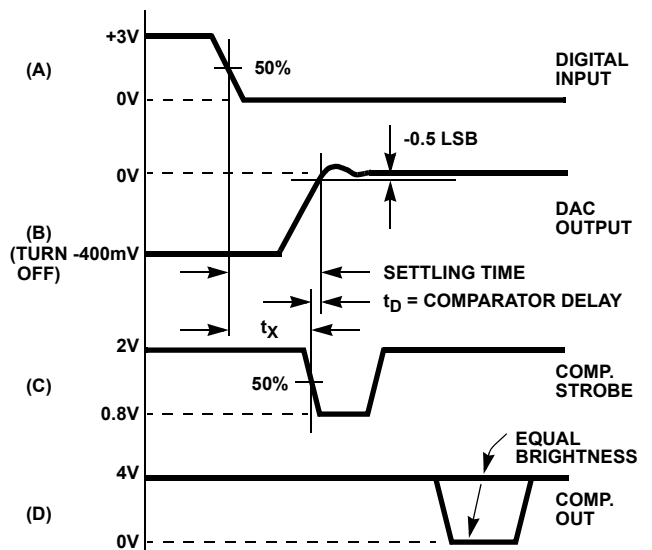

FIGURE 3B.
As shown in Figure 3B, settling time equals t_x plus the comparator delay ($t_D = 15ns$). To measure t_x :
- Adjust the V_{LSB} supply for 50% triggering at COMPARATOR OUT. This is indicated by traces of equal brightness on the oscilloscope display as shown in Figure 3B. Note DVM reading.
- Switch the LSB to Pulse (P).
- Measure t_x from scope as shown in Figure 3B. Settling time equals $t_x + t_D$, i.e., $t_x + 15ns$.